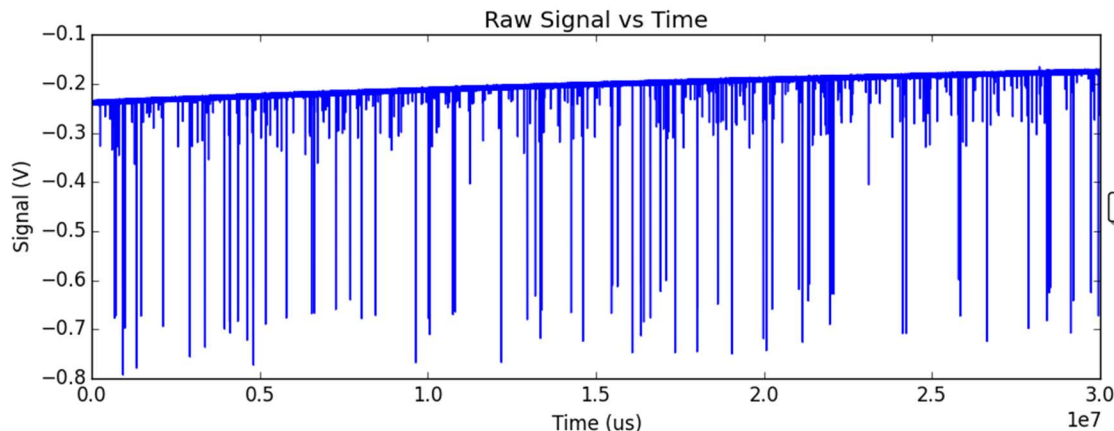

Figure 7. Exemplary raw data: Smooth baseline with particle detection events appearing as downward spikes.
- Raw data should have the form shown in Figure 7—it has a smooth baseline with particle detection events appearing as downward spikes from the baseline.